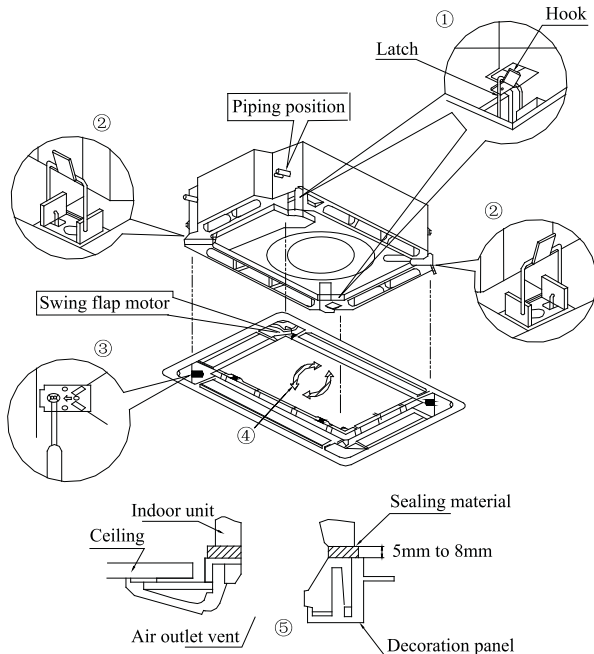

Fig. 13
(1). Install the panel to the indoor unit body by matching the position of the swing flap motor of the panel to the piping position of the indoor unit as shown by Fig. 13.
- ① . Install the panel on the indoor unit temporarily. Hang the latch on the hook that is located on the opposite side of the swing flap on the panel of the indoor unit. (2 positions)
- ② . Hang the remaining 2 latches to the hooks on the sides of the indoor unit. (Be careful not to let the swing motor lead wire get caught in the sealing material.)
- ③ . Screw the 4 hexagon head screws under the latches in about 15mm (1/2 in). (The panel will rise)
- ④ . Adjust the panel by turning it toward the direction pointed by the arrow as shown in Fig. 13, so that the adjust board connect the ceiling well.
- ⑤ . Tighten the screws until the thickness of the sealing material between panel and indoor unit is 5-8mm (1/4-1/8 in).